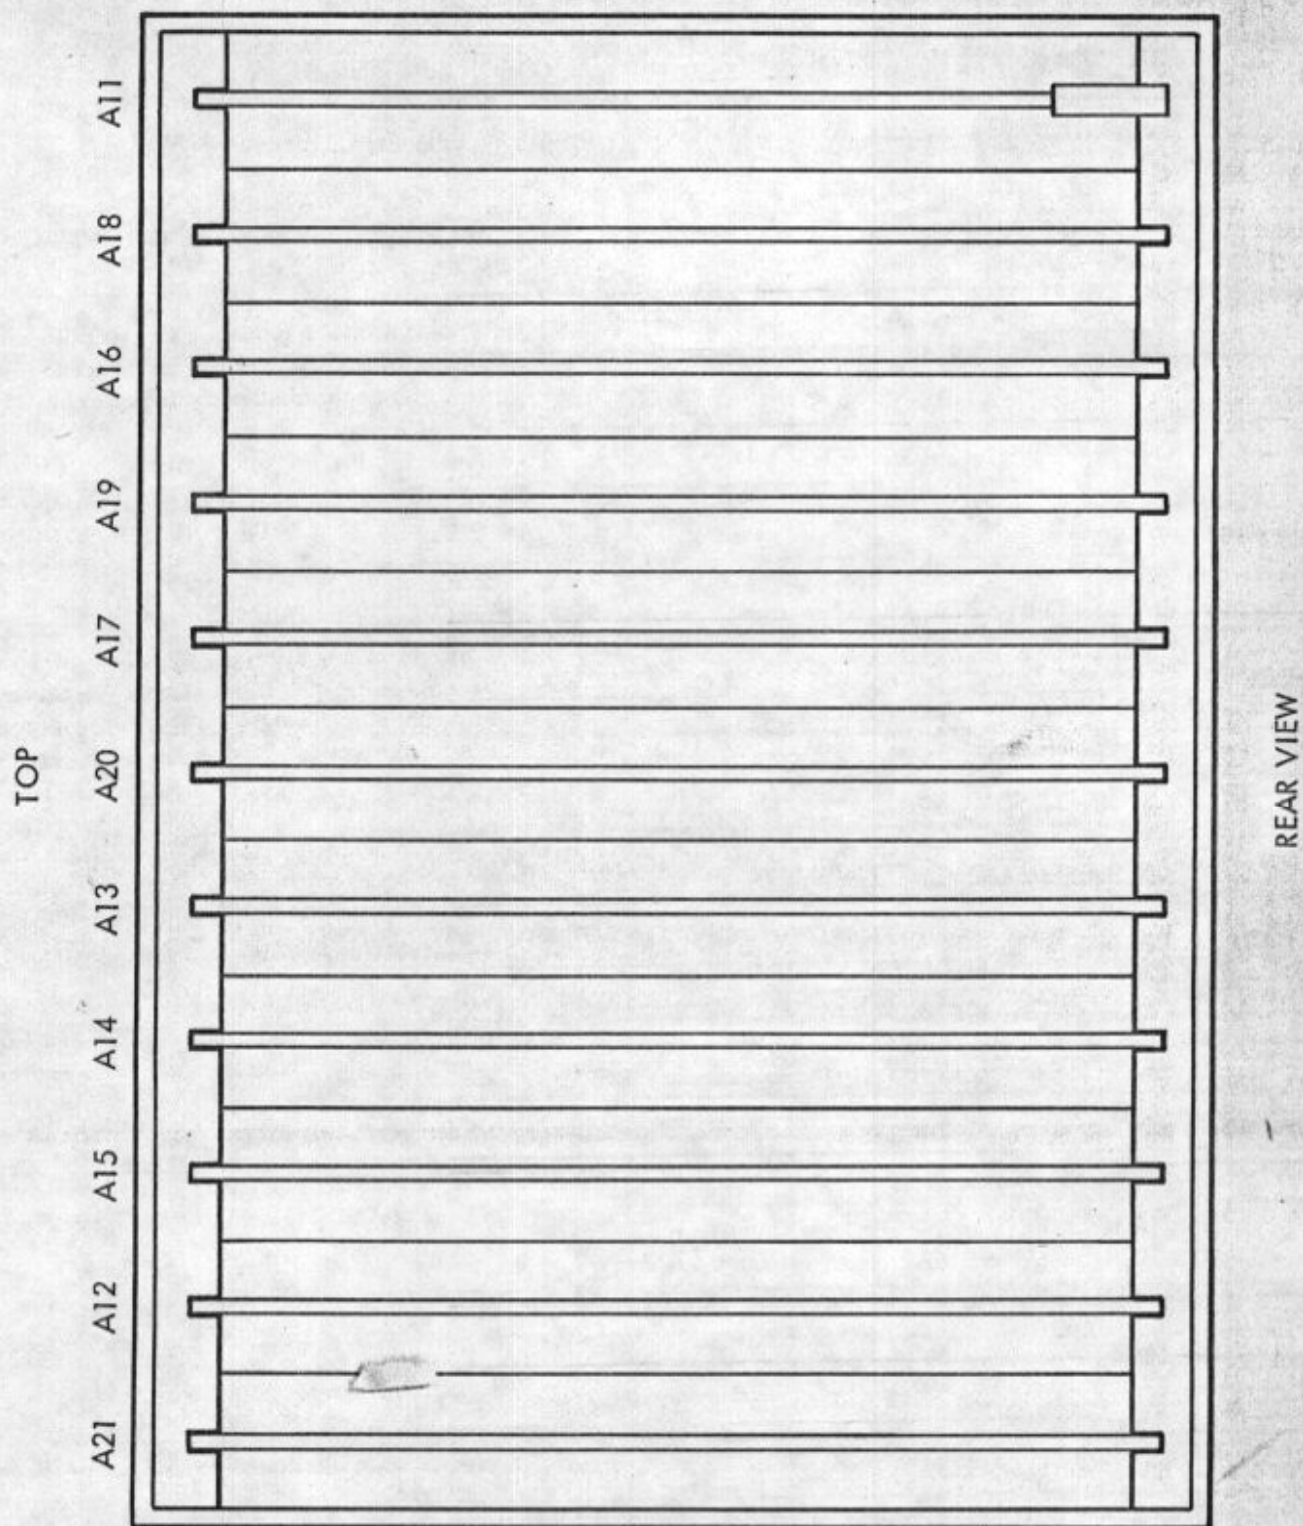

Figure 4-2. Board Locations, A11-A21
4.5.1 All circuit boards may be removed from their mountings by sliding them out sideways (see figures 4-2 and 6-2 for board locations). Most adjustments may be made with each board only half way out of its compartment. When re-inserting boards, dress all wires carefully. Note that some boards cannot be re-inserted unless wires are fully dressed towards the appropriate ends of their compartments.